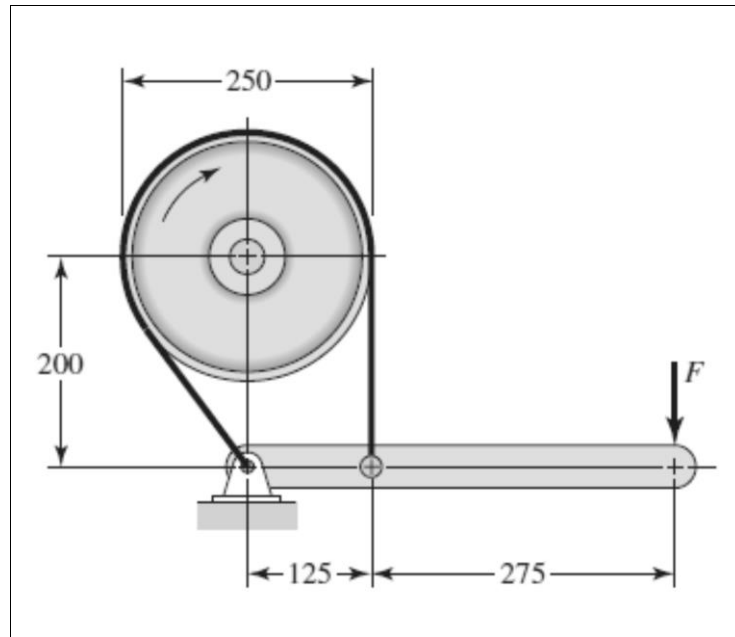

Figure Q1: Simple band brake
- (b) The brake shown in Figure Q1 (all dimensions in mm) has a coefficient of friction of 0.30 and is to operate using a maximum force F of 400 N. If the band width is 50 mm,